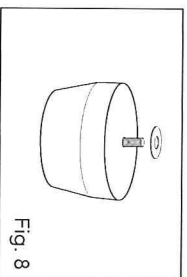

Fig. 8
2. Place a flat washer onto the supporting foot bolt (23) (Fig. 8).